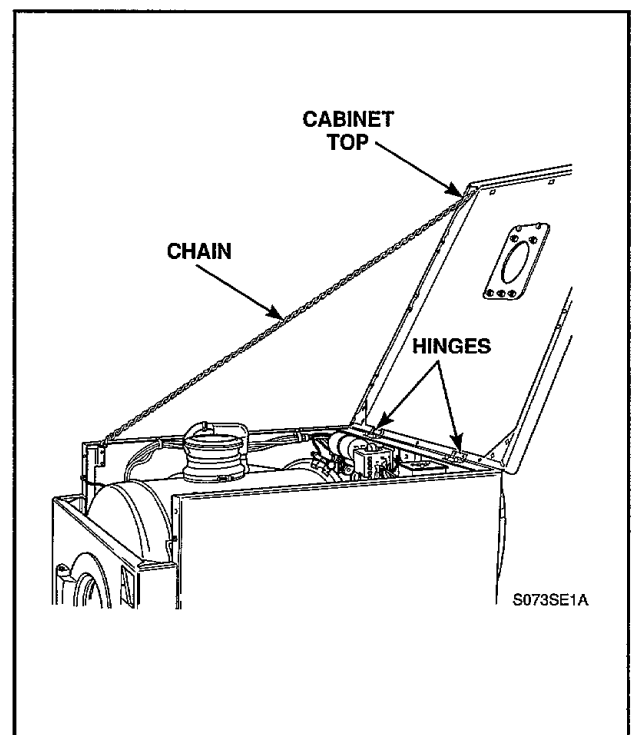

Figure 14
- g. Tilt cabinet top back and hold in raised position with a small chain, *Figure 14*.
- h. Remove four screws and nuts holding cabinet top to hinges, *Figure 14*.
- Tilt cabinet top back and hold in raised position with small chain, *Figure 14*.
- j. Tilt cabinet top back and hold in raised position with a small chain, *Figure 14*.